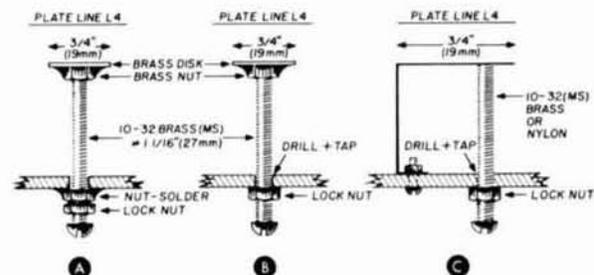

fig. 7. Three methods for building the plate tuning capacitor, C4.
- C4 plate tuning capacitor (see fig. 7)
- C2 10 pF piston trimmer capacitor or built as C4 (fig. 7)
pF and must not break down at full applied B+ . A low loss, high quality glass or ceramic piston trimmer (rated accordingly) would do nicely, or this capacitor may be constructed using 3/4-inch (19mm) wide, sheet brass strap bent up near the plate line for about 3/4 inch (19mm) and insulated from it with a layer or two of sheet mica (see **fig. 7**). The spacing between this tab and the plate line can be varied by any convenient mechanical means to tune the line. An alternate approach is to drill and tap the transverter top-plate to pass a no. 8 or no. 10 (M4-M5) brass machine screw with captive lock nut. Cut the screw so it is just short of touching the plate line (by at least 1/16 inch or 1.5mm) and solder a 3/4 inch (19mm) diameter brass disc to its end. Insulate the disc from the plate line with mica sheet.